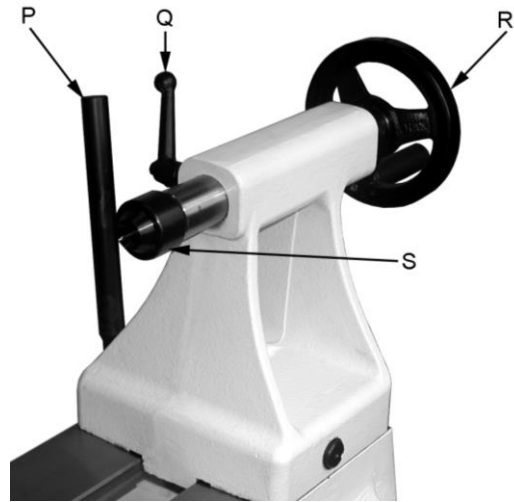

Fig 41
Turn the hand wheel (R, Fig 41) clockwise to move tailstock spindle forward. Lock tailstock spindle with the indexable knob (Q).